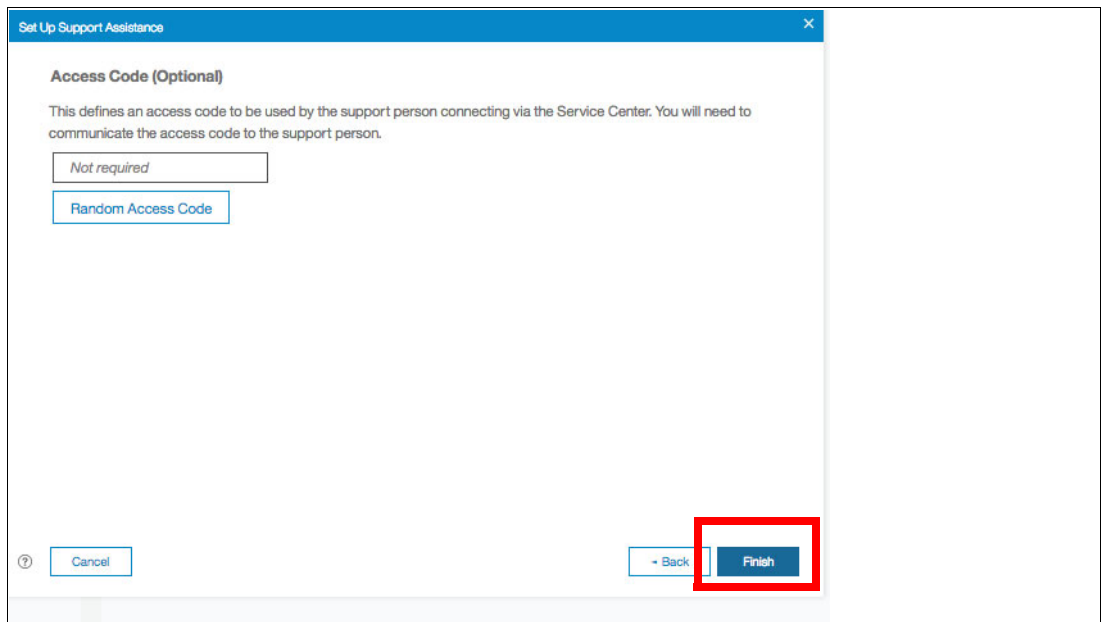

Figure 4-25 Optional Access Code can be Set
- The wizard completes with the ability to set an access code, as shown in Figure 4-25. Selecting **Finish** completes the wizard without the access code.